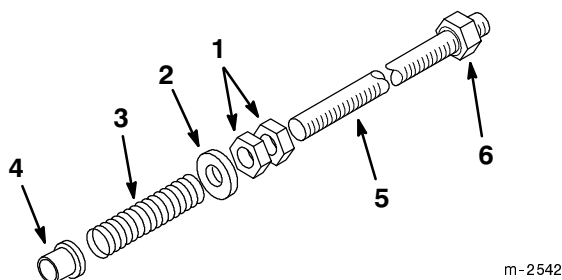

Figure 8
3. Thread two (2) 1/2" jam nuts approximately 22.8 cm (9") up on each adjusting shaft (Fig. 8).
4. Slide a 1/2" washer, spring and bushing onto each adjusting shaft. Make sure to install the bushing with the flange end against the spring (Fig. 8).